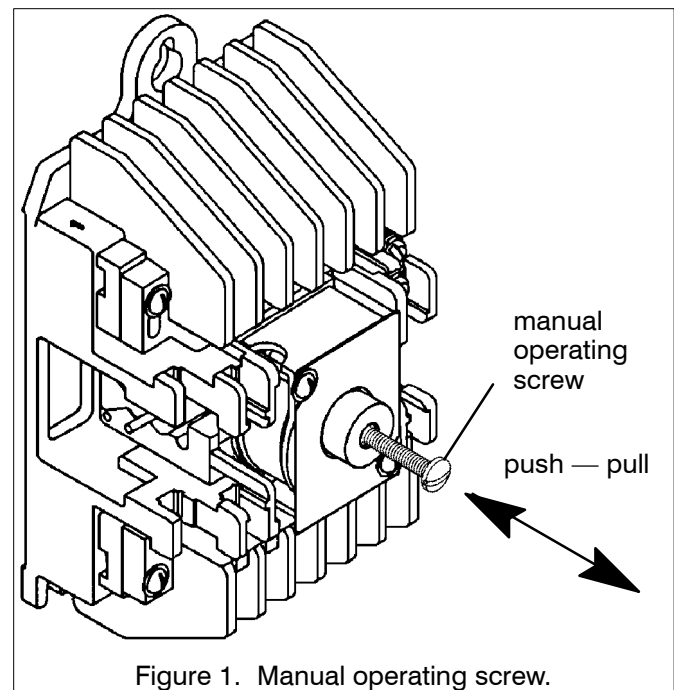

Figure 1. Manual operating screw.
Insert the plastic screw into the center of the coil and carefully turn it clockwise until the threads engage the cam/core. See Figure 1.
6. Manually operate the switch. Use the plastic screw to open and close the switch. See Figure 1. The action should be smooth, without any binding. If not, recheck alignment of coil assembly. *Remove the plastic screw.*
5. Manually operate the switch to check operation of auxiliary contacts(s). See Figure 1.
Use the plastic screw to open and close the switch contacts. See Figure 1. Observe the black buttons in the contact block(s); the contacts are open when the buttons are out. The action should be smooth, without binding. If not, recheck alignment of contact block and actuator. *Remove the plastic screw.*
7. Manually operate the switch with the plastic operating screw. See Figure 1 on page 1. Then remove the screw.